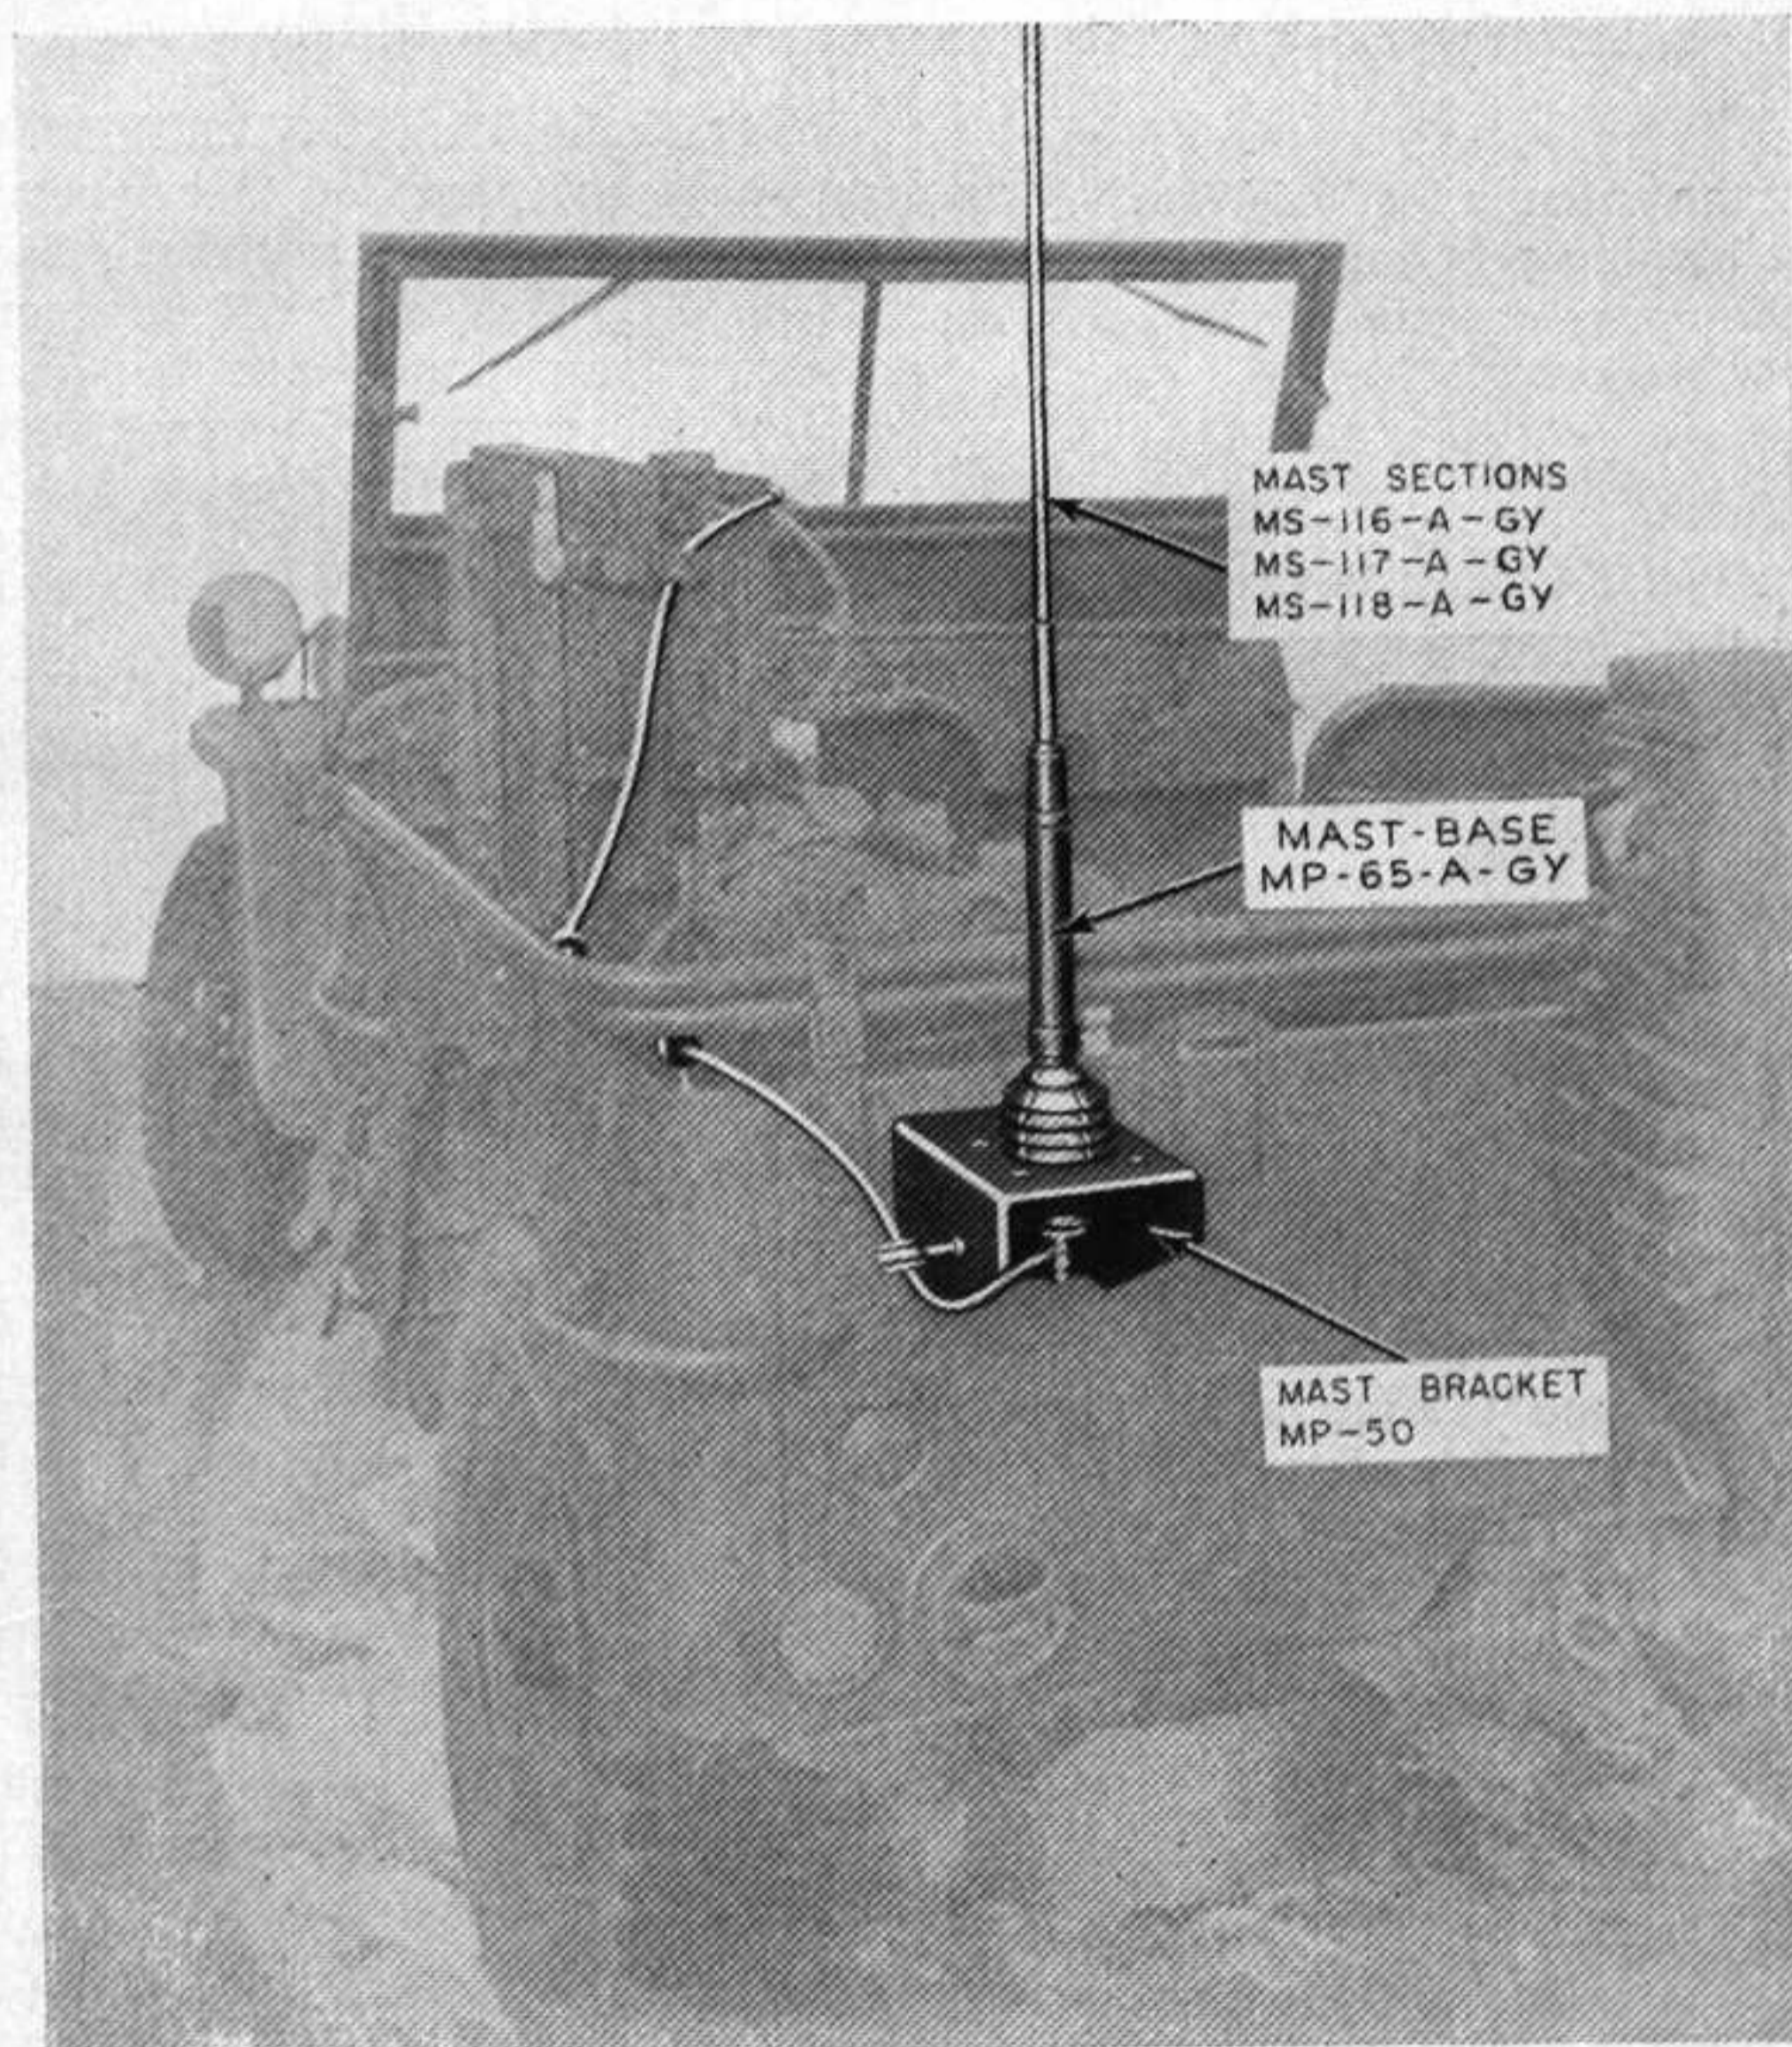

Figure 49. Typical installation of vehicular antenna of radio set AN/GRC-9-GY.
a. The vehicular antenna consists of Mast Base MP-65-A-GY and five mast sections (three Mast Sections MS-116-A-GY, one Mast Section MS-117-A-GY, and one Mast Section MS-118-A-GY). Secure the antenna to the vehicle by means of a Mast Bracket MP-50 (Signal Corps stock No. 2A2090-50) or other appropriate brackets (fig. 49).